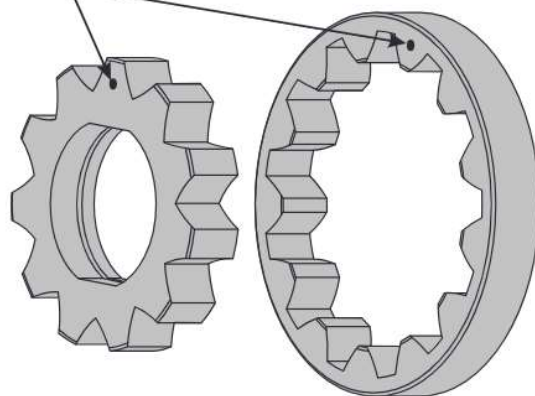

Figure 56
- Caution:** The pump gears must be installed with the "Dots" facing down (See Figure 56).